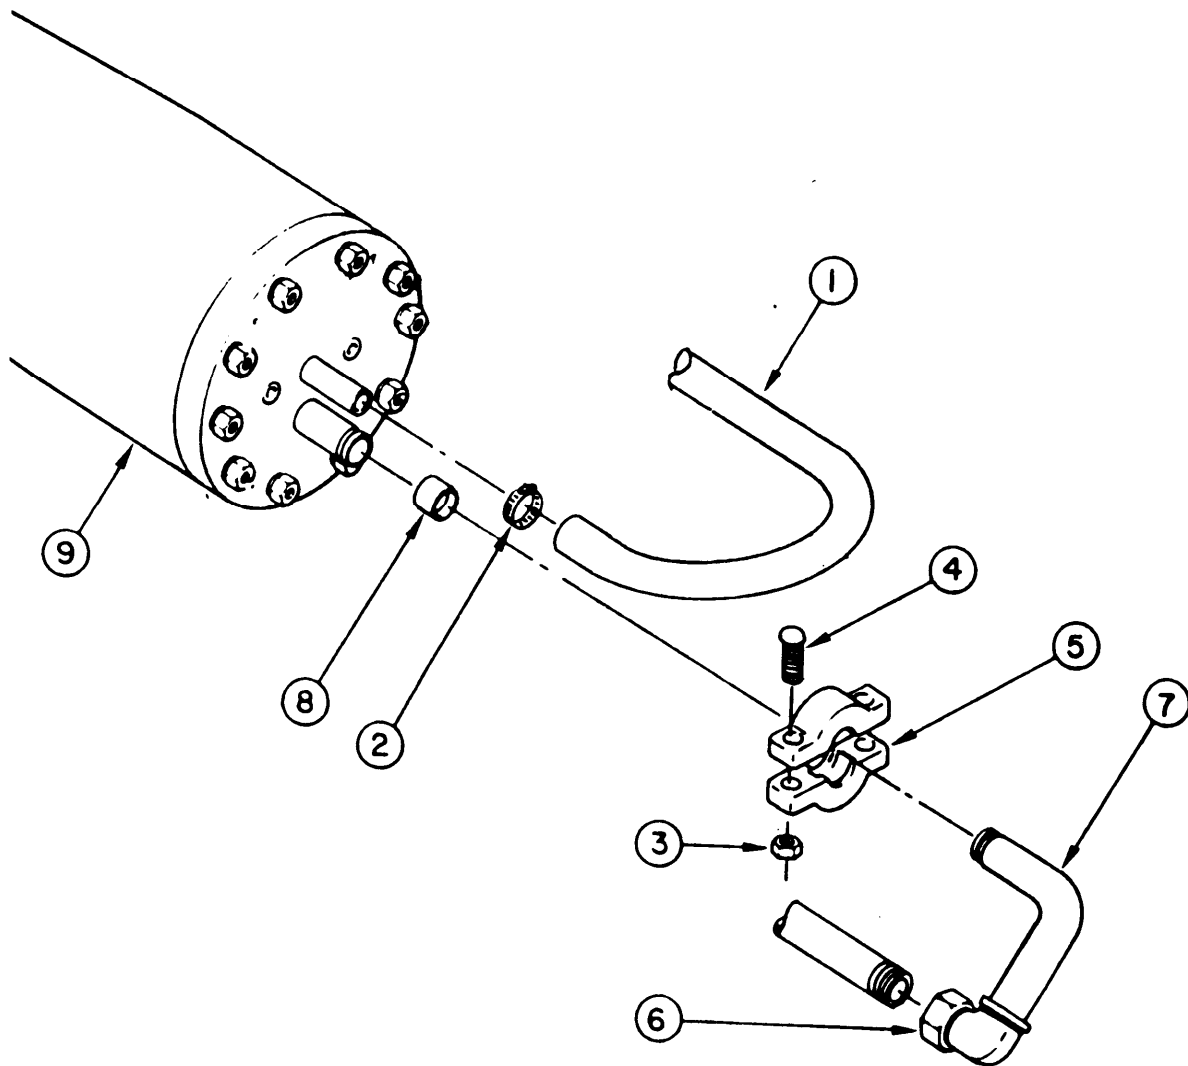

Figure 2-83. R.O. Vessel Piping (ARMY)
b. R.O. Vessel Piping Removal. (ARMY) (Figure 2-83)
- (1) Slide R.O. vessel (5) into ROWPU frame from front side and seat in frame channel (6).
- (2) Locate two brackets (4) on R.O. vessel (5) and ROWPU frame channel (6).
- (3) Insert four bolts (3) into two brackets (4) and frame channel (6).
- (4) Install four lockwashers (2) and four nuts (1) on bolts (3).
k. R.O. Vessel Piping Installation. (Figure 2-83) (ARMY)
- (1) Install coupling (6) and install pipe assembly (7) to R.O. vessel (9).
- (2) Place two sections of pipe clamps (5) and slide rubber grommet (8) over pipe joint of pipe assembly (7) and R.O. vessel (9).
- (3) Insert two bolts (4) through pipe clamp (5).
- (4) Install two nuts (3) on bolts (4).